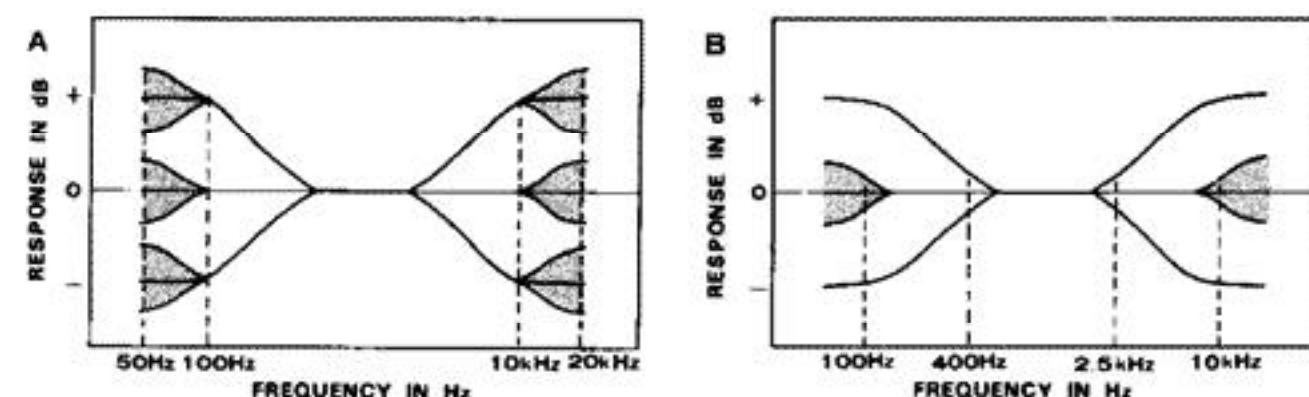

Fig. 6
Similarly, the larger TREBLE control knob adjusts treble response at 10kHz by $\pm 10\text{dB}$. The signal can be further adjusted at 20kHz by $\pm 6\text{dB}$. Fig. 6(A) shows the obtainable frequency response curves when both controls are used together. If the larger knobs are left at "0" and only the smaller knobs used, these function as tone controls with turnover frequencies at 100Hz and 10kHz, respectively. Conversely, if both small controls are left at "0" and only the large knobs used, these act as tone controls with turnover frequencies at 400Hz and 2.5kHz. Fig. 6(B) illustrates these uses.